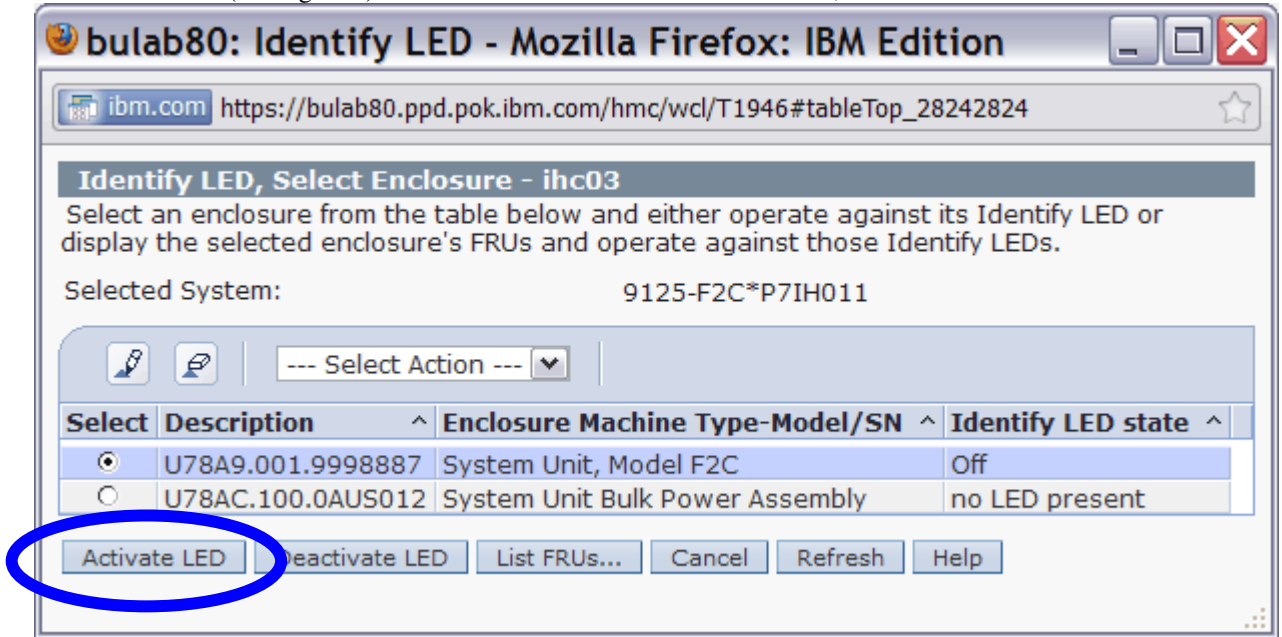

Figure 2 System Unit, Model F2C Selection – Activate LED
STEP 6 In the window titled **Identify LED, Select Enclosure** select **System Unit, Model F2C** then *click* the **Activate LED** button (see Figure 2). This will cause the CEC ID LED to flash, as well as the UEPO Panel of the frame.